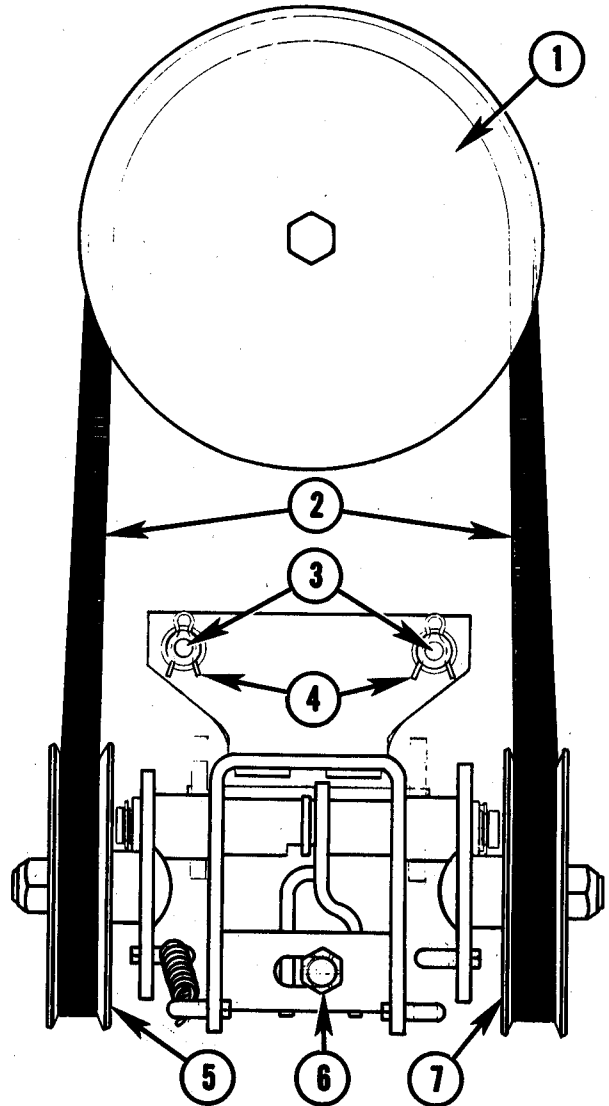
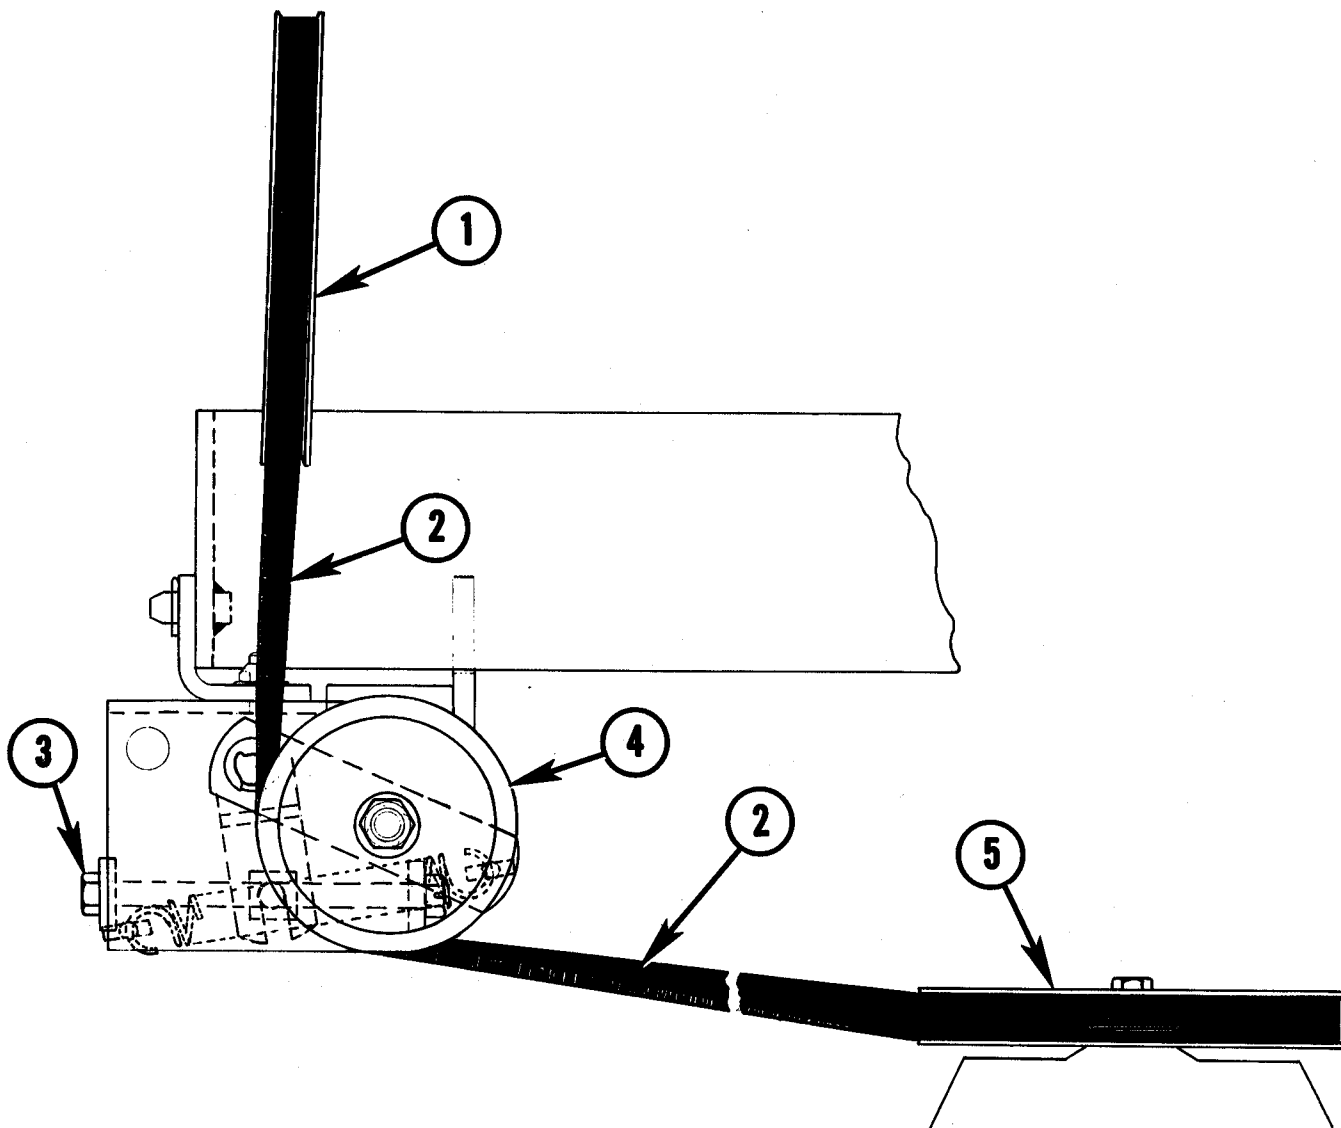

Fig. 49 — Mower Drive Belt Installation
Fig. 50 — Mower Drive Belt Installation
- 8. Remove mule drive unit by removing 2 spring clips, see Fig. 49.
- 9. Place mower drive belt over implement drive clutch pulley, see Fig. 49.
- 11. Rotate bolt, No. 6, Fig. 49, counterclockwise and install belt, No. 2, Fig. 49, under left pulley, No. 7, Fig. 49, then place belt around mower clutch pulley, No. 5, Fig. 50.
- 12. Raise spring loaded pulley, No. 5, Fig. 49, and install belt under it as shown.
- 13. Rotate bolt, No. 6, Fig. 49, clockwise until both mule drive pulleys are the same height.